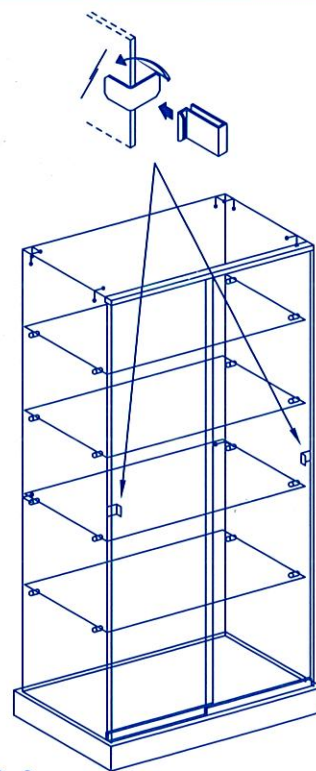

FIG. 6
- FIG. 6 REPETER L'OPERATION AVEC LE DEUXIEME COULISSANT. SI LA PORTE N'A AUCUNE ONGLET DANS LE VERRE, MONTEZ-VOUS LES POIGNEES EN APPLIQUANT PREMIEREMENT L'ADHESIF AU VERRE ET EN SUIITE FIXEZ-LES-VOUS AVEC FORCE POUR EVITER QU'ELLES SE DECOLLENT AVEC L'USAGE.
- FIG. 6 REPEAT THE OPERATION WITH THE SECOND SLIDING DOOR. IF DOORS ARE NOT EQUIPPED WITH NOTCHES, PLEASE ASSEMBLE THE HANDLES APPLYING THE STICKER ON GLASS AND FIT STRONG THE HANDLES TO AVOID THEIR REMOVAL BY THE USE OF SLIDING DOORS.
- FIG. 6 WIEDERHOLEN SIE DIE OPERATION MIT DER ZWEITE GLASTUR. OB DIE TUR OHNE EINSCHNITTE IST, BENUTZEN SIE DIE HANDGRIFFE. VERWENDEN SIE ERST DEN KLEBSTOFF AUF DAS GLAS. BEFESTIGEN SIE DANN KRAFTIG DIE HANDRIFFE UM DIE ABSETZUNG ZU VERMEIDEN.
- FIG. 6 REPETIR LA OPERACION CON LA SEGUNDA PUERTA DE CORREDERA. SI LA PUERTA NO ESTA EQUIPARA DE MUESCAS, MONTAR LOS TIRADORES COLOCANDO EL ADHESIVO EN EL CRISTAL Y FIJAR CON VIGOR LOS TIRADORES POR QUE NO SE QUITAN CON EL USO.
- FIG. 6 RIPETERE L'OPERAZIONE CON L'ALTRO SCORREVOLE. SE LO SCORREVOLE NON E' PROVISTO DI TACCHE INCISE NEL VETRO, PROVVEDERE A MONTARE LE MANIGLIETTE APPLICANDO PRIMA IL BIOADESIVO SULLO SPESSORE DEL VETRO, POI INSERIRE FORZANDO LE MANIGLIETTE STESSE PER EVITARE CHE SI TOLGANO DURANTE L'UTILIZZO DELLE ANTE.
- (F) NOTICE: Il est très important que vous suiviez phase par phase les instructions de montage!
- (GB) ASSEMBLY INSTRUCTIONS: It is very important that you follow step by step assembly instruction!
- (D) MONTAGE ANLEITUNG: Es ist sehr wichtig dass Sie die Montageanleitung der Reihe nach verfolgen!
- (E) LAS INSTRUCCIONES: Es muy importante que sigan paso a paso las instrucciones!
- (I) ISTRUZIONI DI MONTAGGIO: E' importante seguire le istruzioni di montaggio passo dopo passo!